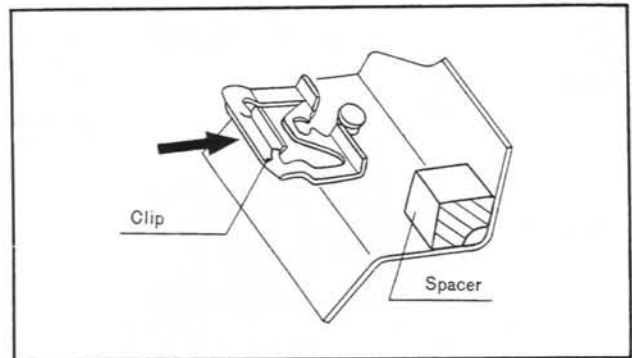

Fig. 14-12 Inserting of clip
5. Insert each clip to the clip insertion portion in the manner shown in Fig. 14-12.